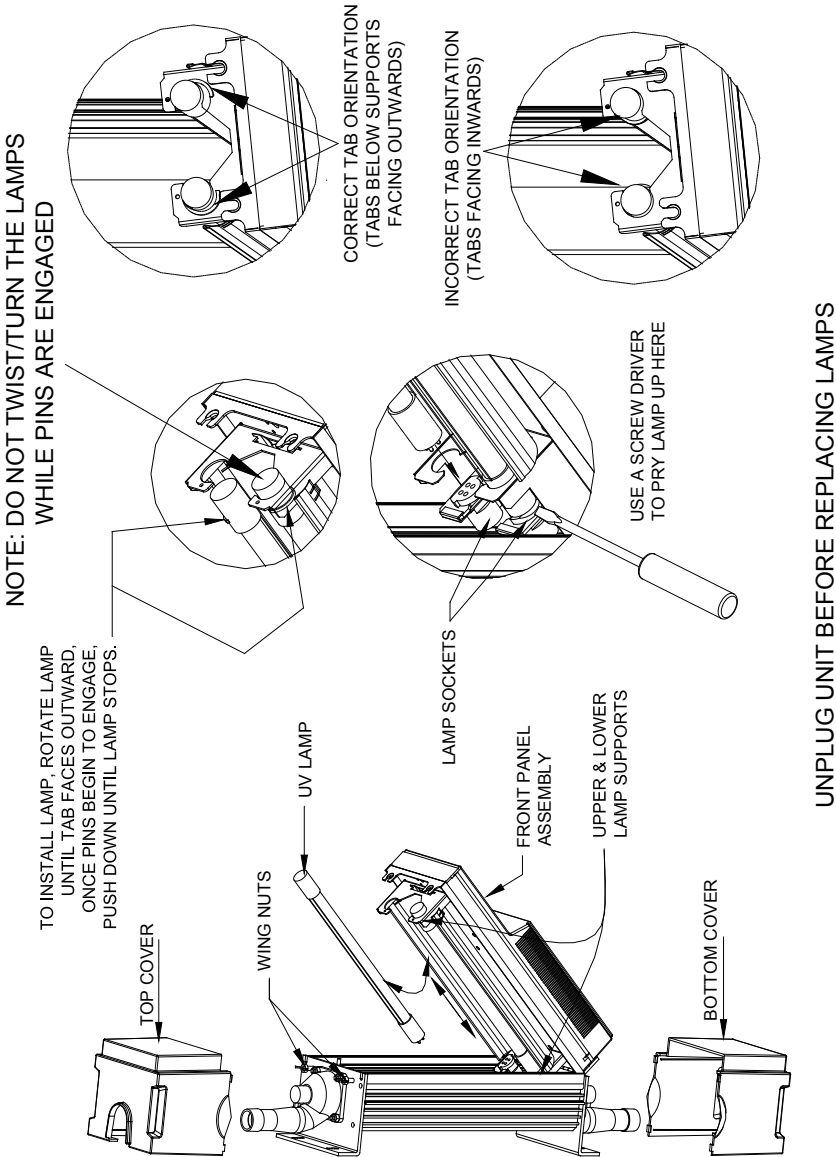

Figure 3
The lamps can be easily replaced in minutes. Draining the system or removing it from the wall is not required. See Figure 3.
Step 2. CAUTION: The lamps are very hot after continuous use and can burn your skin on contact. Allow lamps to cool for five minutes before removing them. Slowly lift the old lamps out of the system. **Do not twist the lamps as they are being removed.** To help remove the lamps, insert a flat bladed screwdriver between the lamp base and its socket and lightly pry the lamps upward (see Figure 3). Dispose of the old lamps in the same way you would dispose of ordinary fluorescent lamps. Note that old lamps should be disposed of at a household waste management depot or transfer station; contact your local recycling and waste management authority for proper disposal procedures.
Step 3: Install the new lamps into the KUV 1200, being careful not to touch the bulb. **Ensure that the lamps are aligned with the tab facing the outside of the system (left or right side of the system), or, if the lamps have a “stop sign” printed on the top ceramic, ensure that the “stop sign” is facing toward the middle/center of the system. (If you cannot see the stop sign, the position of the lamp is correct; if you CAN see the stop sign, the lamp is backward. Spin the lamp 180 degrees so that you cannot see the stop sign. (See Figure 3)**